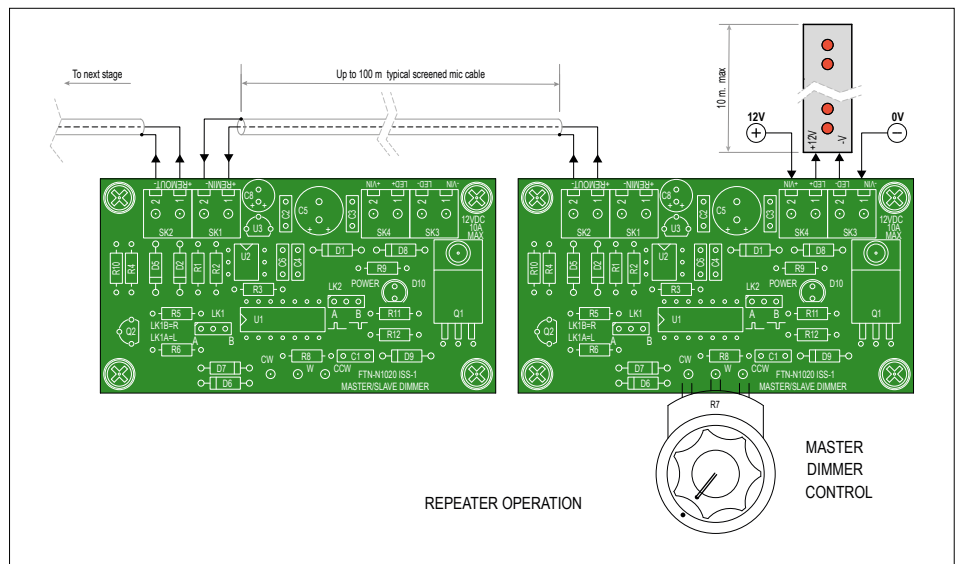

Figure 3. Board "interwiring" for repeater (Master/Slave) operation. The boards can be up to 100 m (300 ft) apart so how big is your gig?
- Extended control to a second dimmer unit is with link LK1 in position B (**Figure 3**). This has a single core shielded microphone cable (up to 100 m length) connected between the Master and the Slave.